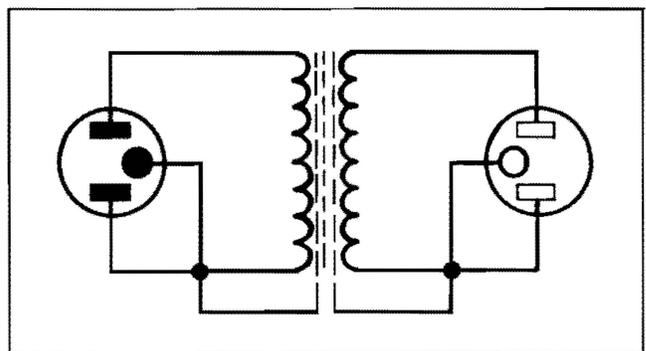

Figure 3-3. Isolation Transformer.
- c. To convert a dB reading to dBm, use the Impedance Correction Graph (Figure 3-3). For example: To convert a +30dB reading made across 50 ohms to dBm, locate the load impedance on the bottom of the graph. Follow the impedance line to the heavy black line and read the meter correction at that point. The correction for 50 ohms is +10.5dBm, and the corrected reading is +40.5dBm.
- d. When using an ac power source, ground loops can be eliminated by connecting the 400E/EL to an adequate isolation transformer. This will open the power line ground circuit as shown in Figure 3-3.